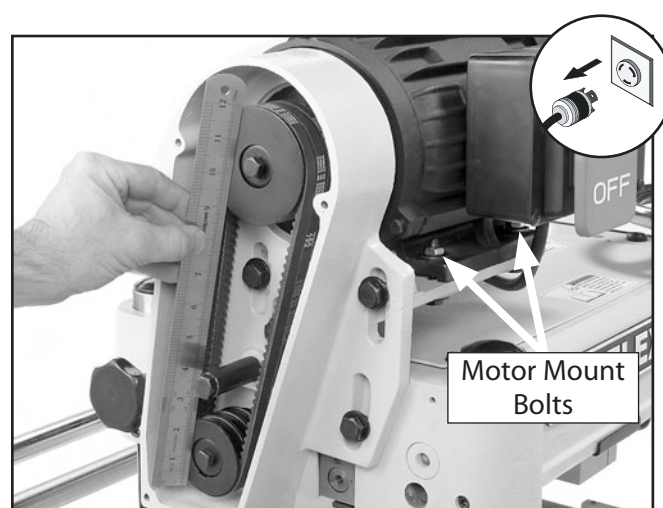

Figure 47. Checking belt alignment.
Proper pulley alignment (see **Figure 47**) prevents premature belt wear. The pulleys are properly aligned when they are parallel and in the same plane as each other. Use a straightedge on the edge of the pulleys to judge alignment.
2. Loosen the motor mount bolts (**Figure 47**) to rotate the motor left-or-right so the motor pulley is parallel with the cutterhead pulley.